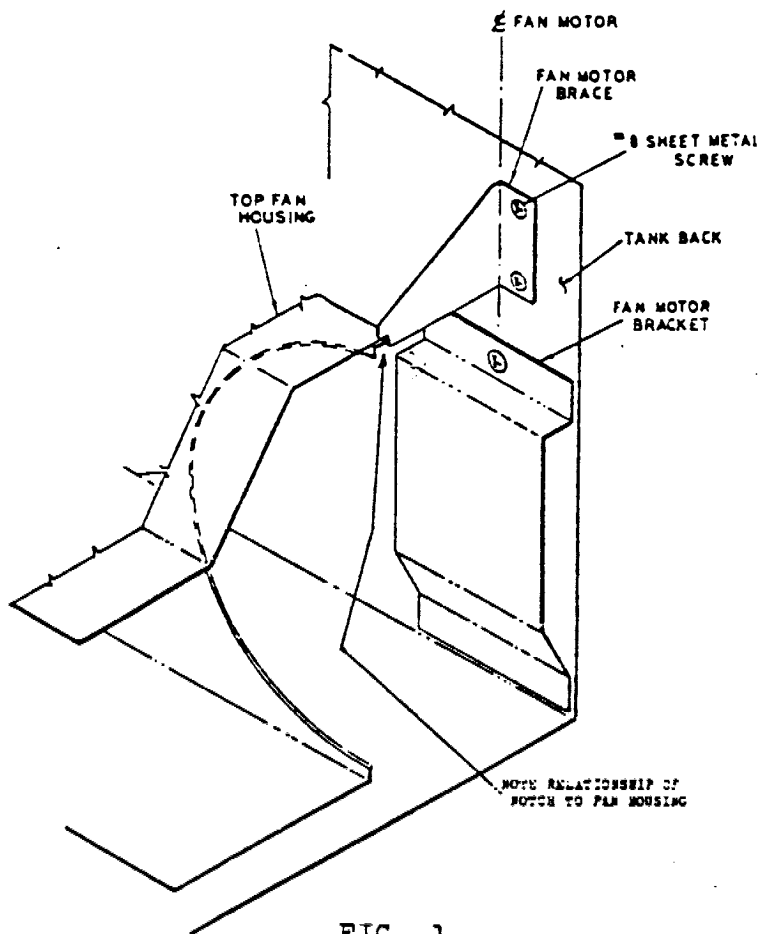

FIG. 1
2. Locate the fan motor Brace as shown, Fig. 1.